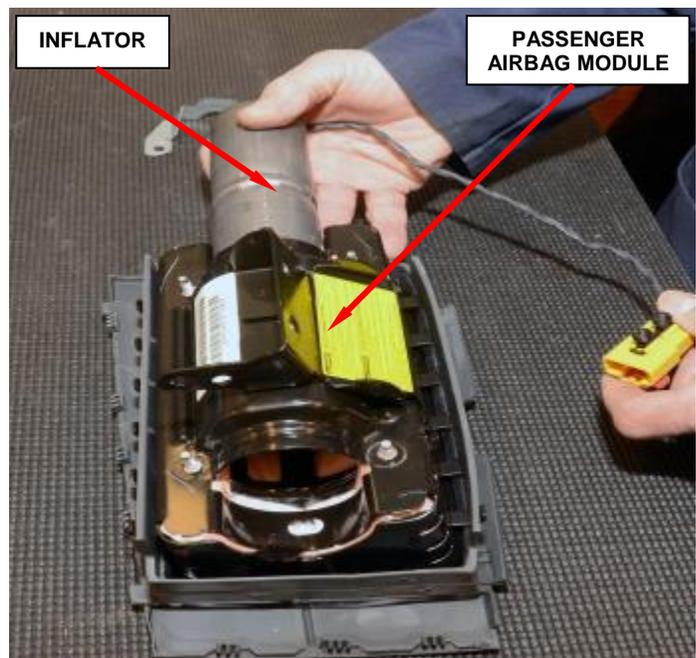

Figure 87 – Inflator Removal
f. Slide the inflator out of the passenger airbag module (Figure 87).